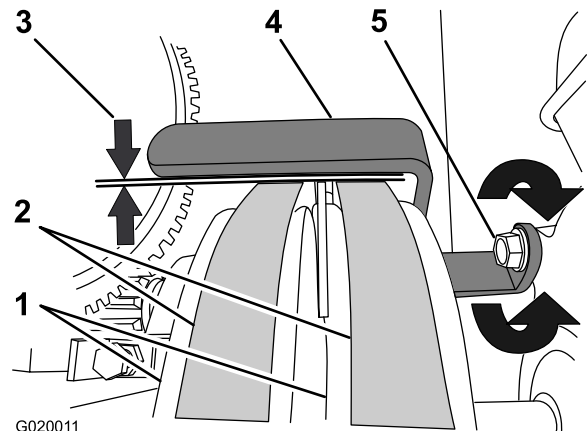

Figure 74
3. Check that the air gap between the belt guide and the belts is 2.5 to 4.0 mm (3/32 to 5/32 inch); refer to Figure 74.
- A. Loosen the bolt that secures the belt guide to the engine (Figure 74).
- B. Rotate the belt guide up or down until there is an air gap of 2.5 to 4.0 mm (3/32 to 5/32 inch) between the guide and each belt (Figure 74).
- C. Tighten the bolt that secures the belt guide to the engine (Figure 74).